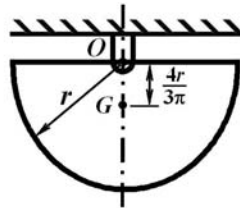

Figure 1, Q.3 (a)
Q.3 (a) Derive the equation of natural frequency of free vibration for the single degree of freedom system shown in Figure 1. Also find the natural frequency for the system if the mass of the semi-cylinder is 5 kg and radius is 60 mm. **07**